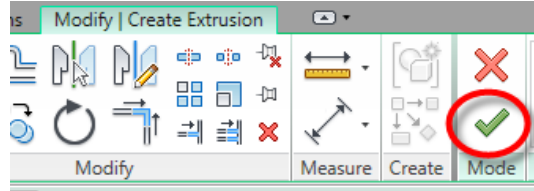

Figure 25. Finishing the VAV Box Body.
37. From the ribbon, click **Finish** (see Figure 25).